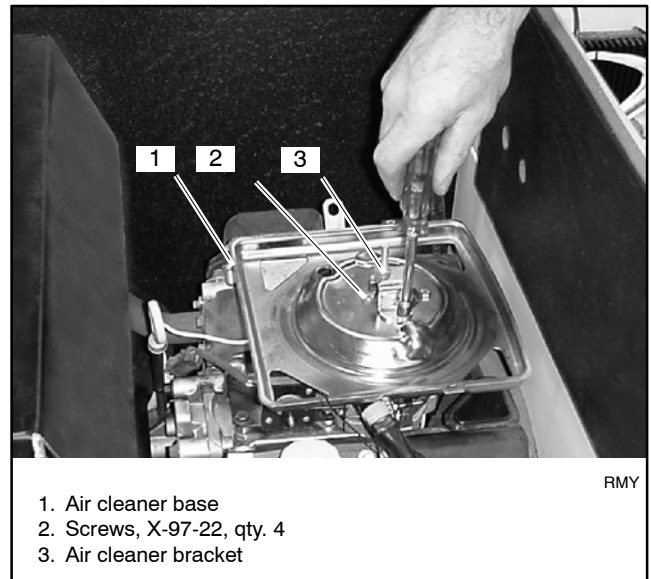

Figure 15 Air Cleaner Bracket and Screws
- 6.3 Place the air cleaner bracket on the air cleaner base. Attach the air cleaner base, bracket, and heater to the carburetor using the four screws, X-97-22. See Figure 15.